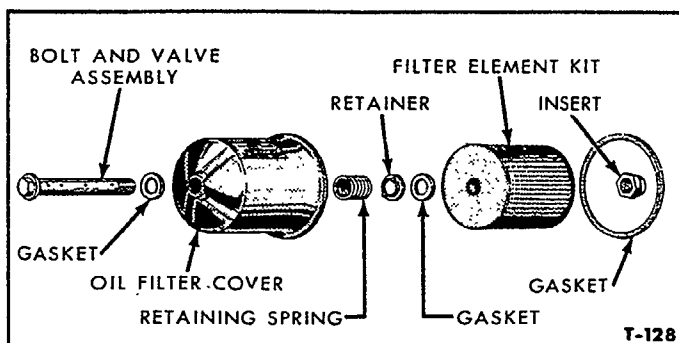
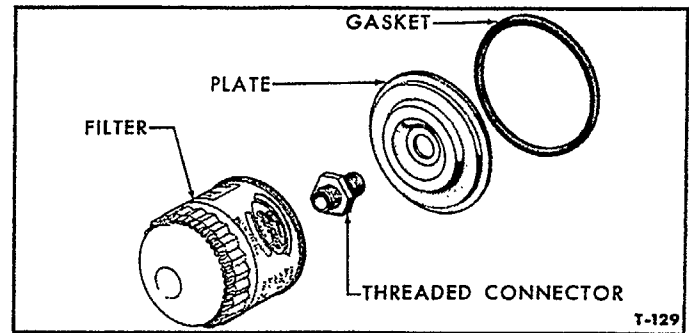
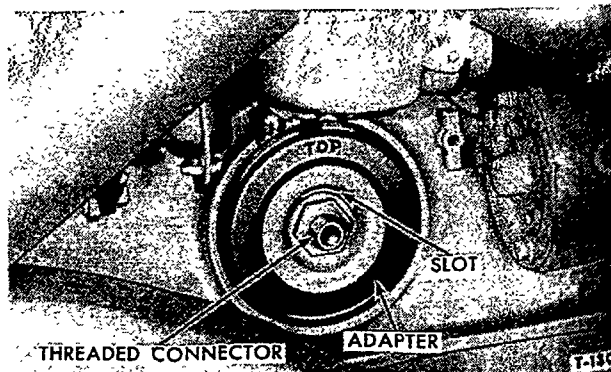

Figure 35—Early Type Oil Filter—Disassembled
Figure 36—Later Type (Throw-Away) Oil Filter—Disassembled
Figure 38—Connector and Adaptor Installed
There are two different type oil filters used on Ford Tractor engines. One type consists of a cover, filter element, center bolt and relief valve and the attaching parts and gaskets, Figure 35. The other consists of a mounting insert, adapter, gasket and oil filter, Figure 36. The later type (Throw-Away) contains the relief valve in the filter, whereas the relief valve was in the center bolt on the earlier type.
2. Assemble the filter for the four wheel tractors in the sequence shown in Figure 35. Assembly is the same for the row crop tractors, except that the bolt head is welded to the cover, making it one assembly.
2. Remove the center bolt and valve assembly, cover and element, Figure 35.
5. Install the new large gasket, Figure 36, in the recess in the cylinder block. Hold the adapter against the gasket with the slot at the "TOP" and install the threaded connector as shown in Figure 38. Tighten the connector enough to seal the adapter to the cylinder block.